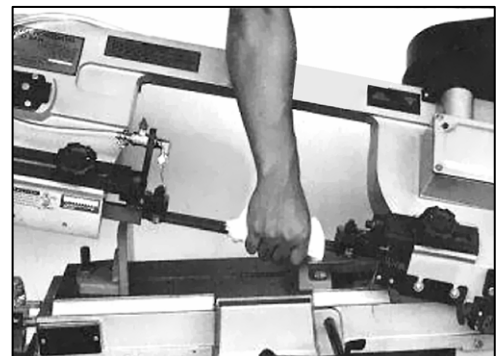

Fig. 16
4. Turn nut (B) to adjust eccentric bearing snug to the blade. Blade should still move up and down freely when grasped as in Fig. 16. Warning! Make sure power is disconnected and hands are protected before handling blade. Be sure that blade teeth do not interfere with the roller bearings: